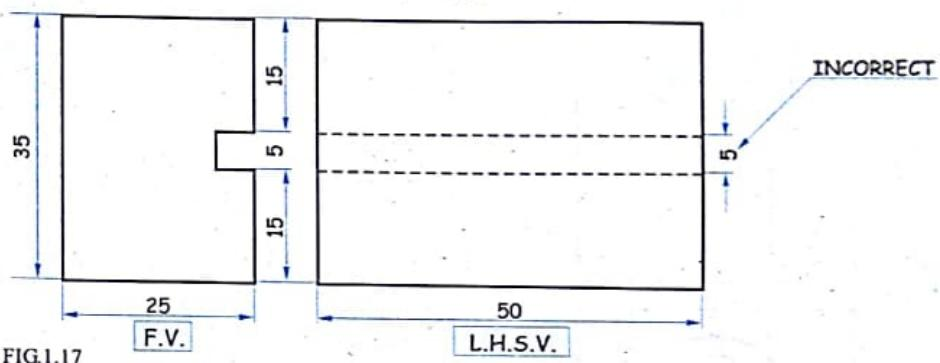

FIG.1.17
9. Avoid dimensioning for hidden lines if possible. Refer figure 1.17.